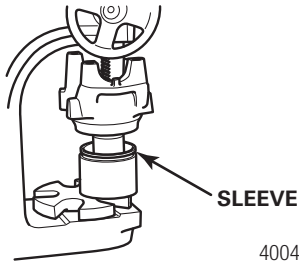

Figure 18
4. Apply a light coat of axle oil to the yoke journal. Position the sleeve into the forward-rear axle input yoke sleeve driver. Do not touch the greased areas of the sleeve. The sleeve must be kept clean prior to assembly into the seal. Use an arbor press and Meritor sleeve driver 2728T2 to install the sleeve into the yoke. Verify that the sleeve is fully-seated in the yoke. Figure 18.